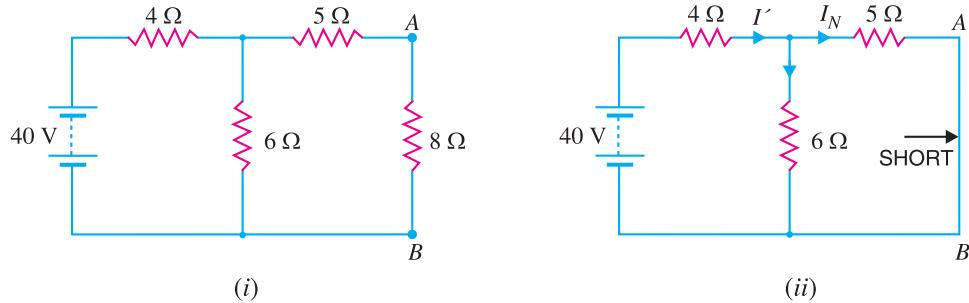

Fig. 1.40
**Example 1.12.** Using Norton's theorem, find the current in  $8\ \Omega$  resistor in the network shown in Fig. 1.40 (i).
**Solution.** We shall reduce the network to the left of AB in Fig. 1.40 (i) to Norton's equivalent circuit. For this purpose, we are required to find  $I_N$  and  $R_N$ .
(i) With load (i.e.,  $8\ \Omega$ ) removed and terminals AB short circuited [See Fig. 1.40 (ii)], the current that flows through AB is equal to  $I_N$ . Referring to Fig. 1.40 (ii),